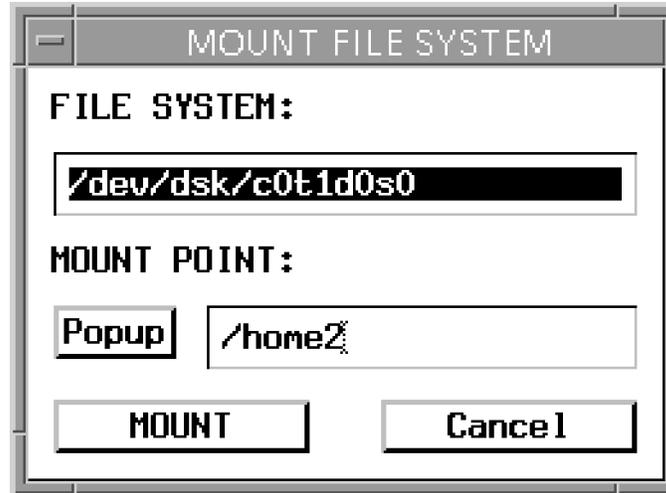

Figure 9. MOUNT FILE SYSTEM Window
- STEP 2: **Click on the MOUNT button.** The MOUNT FILE SYSTEM window appears (Figure 9).
STEP 1: Click on the `MOUNT NEW` button. The `MOUNT FILE SYSTEM` window appears (Figure 9).